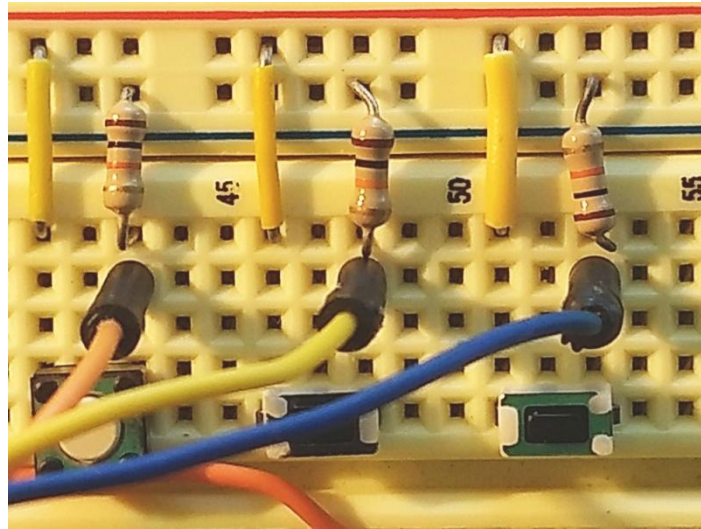

Figure 3. Buttons, resistors and jump wires installed.
2. Connect the buttons, two flexible jump wires, and two short orange jump wires, and 10,000-Ohm resistors to your breadboard, as shown in Figure 3. Connect holes F46 to F48, and F51 to F53 using switches. Connect J48 and J53 to the ground using 10K ohm resistors. (if you have large resistors use H48 and H53.) Connect rows J46 and J51 to power using yellow jump wires.